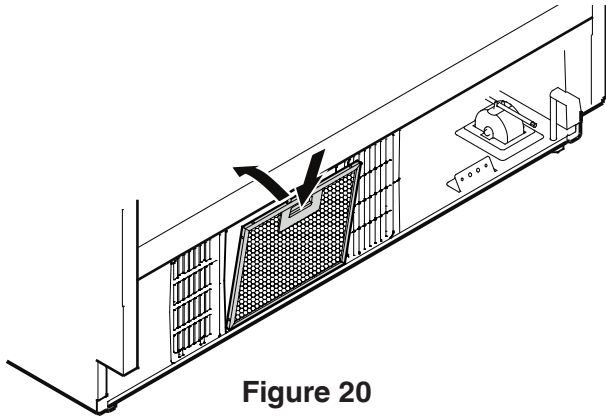

Figure 20
## Mounting the Ventilation Grille - Figure 20, 21
2. Remove the blue protection film from the dust filter provided and insert the filter into its opening in the toe kick area as shown in **Figure 20**. Attach the filter at the bottom, press down the button and click into place.